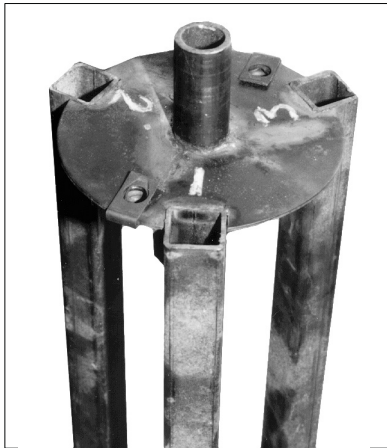

figure 4
- a. Number the tubes on the core as 1, 2 and 3 (figure 4).